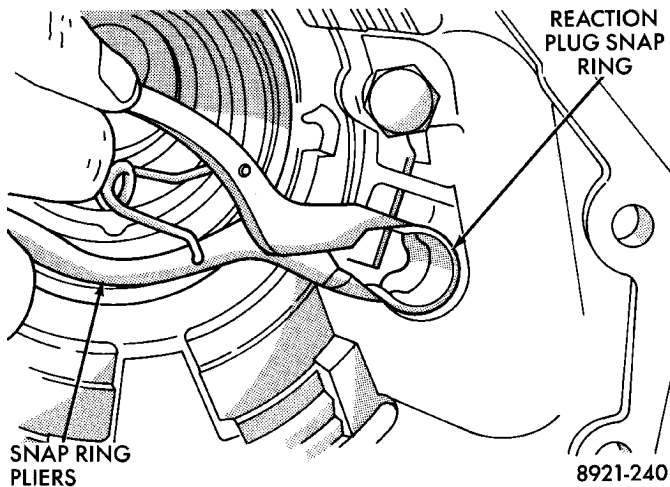

Fig. 240 Reaction Plug And Snap-Ring Installation
(4) Install reaction plug snap-ring (Fig. 240). **Compress snap ring only enough for installation; do not distort it.**